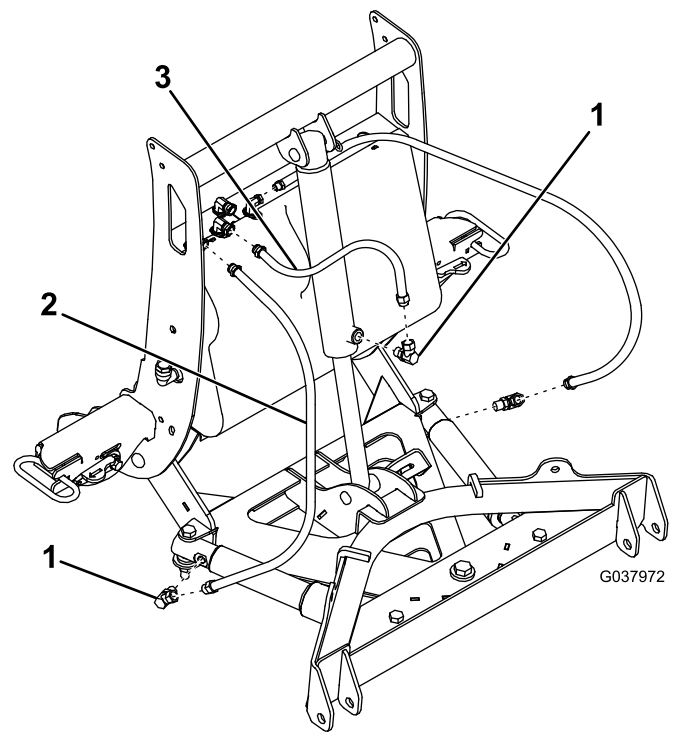

Figure 6
2. Using thread compound, install a 90° fitting to the lower port on the lift cylinder (Figure 6).
3. Install the 39 cm (15-1/2 inch) hydraulic hose to the middle fitting on the hydraulic shelf and the previously installed 90° fitting (Figure 6). Turn the fitting until it is finger tight, then turn it 2 to 3 more times.
4. Using thread compound, install a 90° fitting to the right angle cylinder located on the push-frame assembly (Figure 6).
5. Install the 76 cm (30 inch) hydraulic hose to the right fitting on the hydraulic shelf and the previously installed 90° fitting (Figure 6). Turn the fitting until it is finger tight, then turn it 2 to 3 more times.